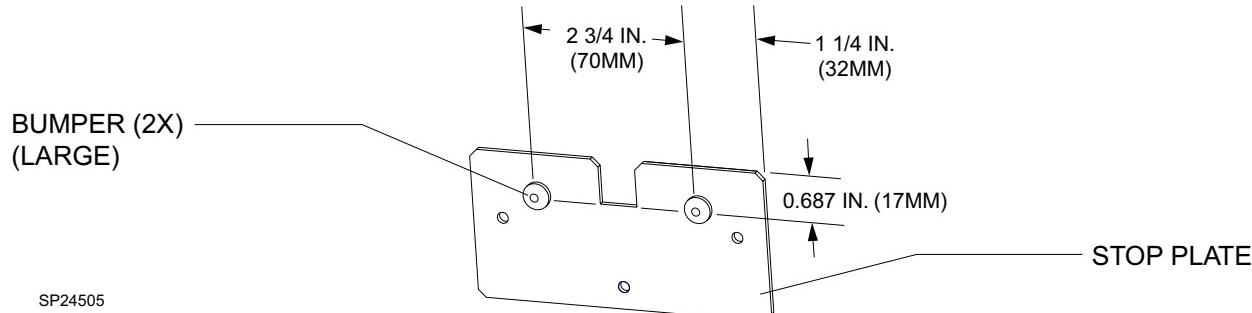

FIGURE 5. Installing the Rear Bumpers
8. Install two bumpers (4110943-002) on the stop plate (4117037). See Figure 5.